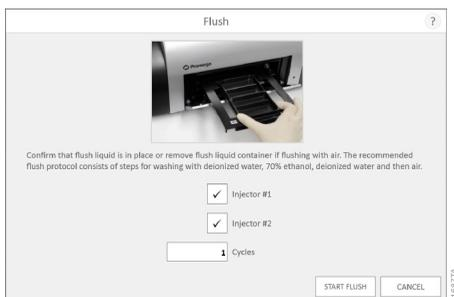

Figure 123. Injector Flush function.
4. Tap the **Start Flush** button (Figure 123).